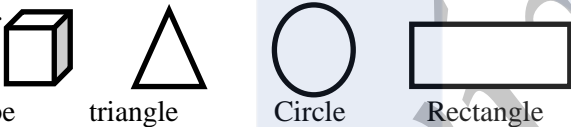

Figure 4
18. Indicate a basic solid among the shapes in figure 4 below.